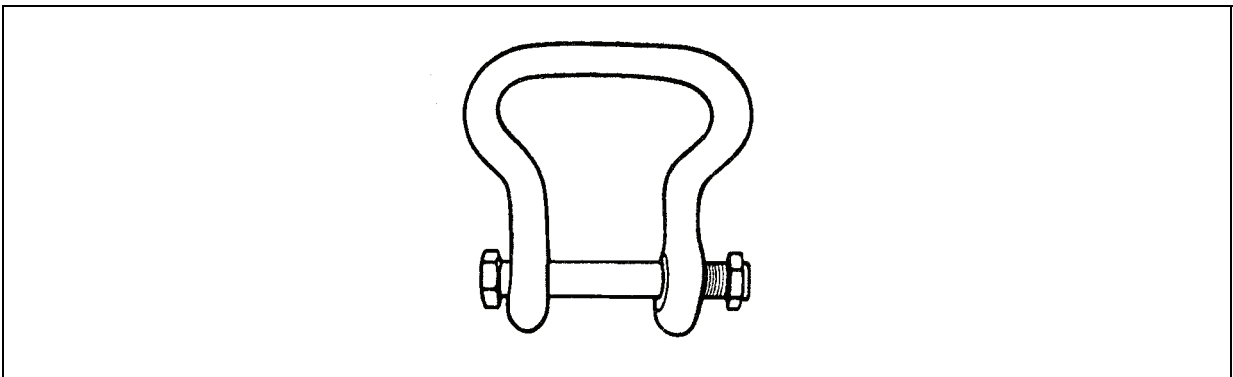

Figure 8-33. Medium Clevis Assembly (Part No. MS 70087-2)
- **Medium Clevis.** The medium clevis (Figure 8-33) can lift single lift point loads up to a maximum weight of 6,250 pounds. It also can be used to attach sling legs of a four-legged sling set to a load weighing up to 15,000 pounds. If the load has two or three attachment points, the maximum load weight is 7,500 and 11,250 pounds, respectively. It is commonly used to join the four suspension web straps on the A-22 cargo bag. The medium clevis has a 3/4-inch bolt and nut.